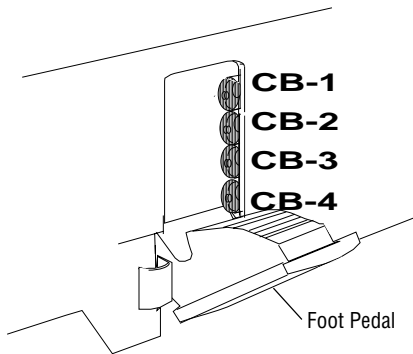

Figure 4-1. Circuit Breakers
1. Lower foot pedal on table base to access the circuit breakers (Figure 4-1).